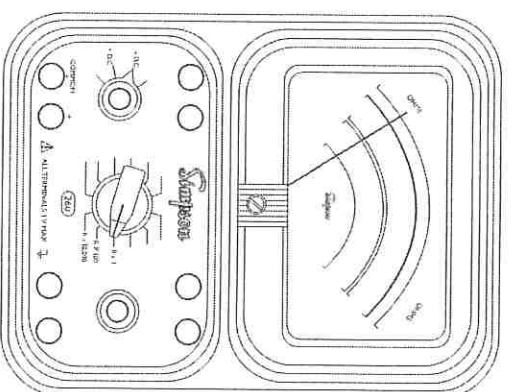

FIGURE 4-12. Jacks and Switch Positions for Measuring Resistance
- Set the range switch to one of the resistance range positions as follows (Figure 4-12):